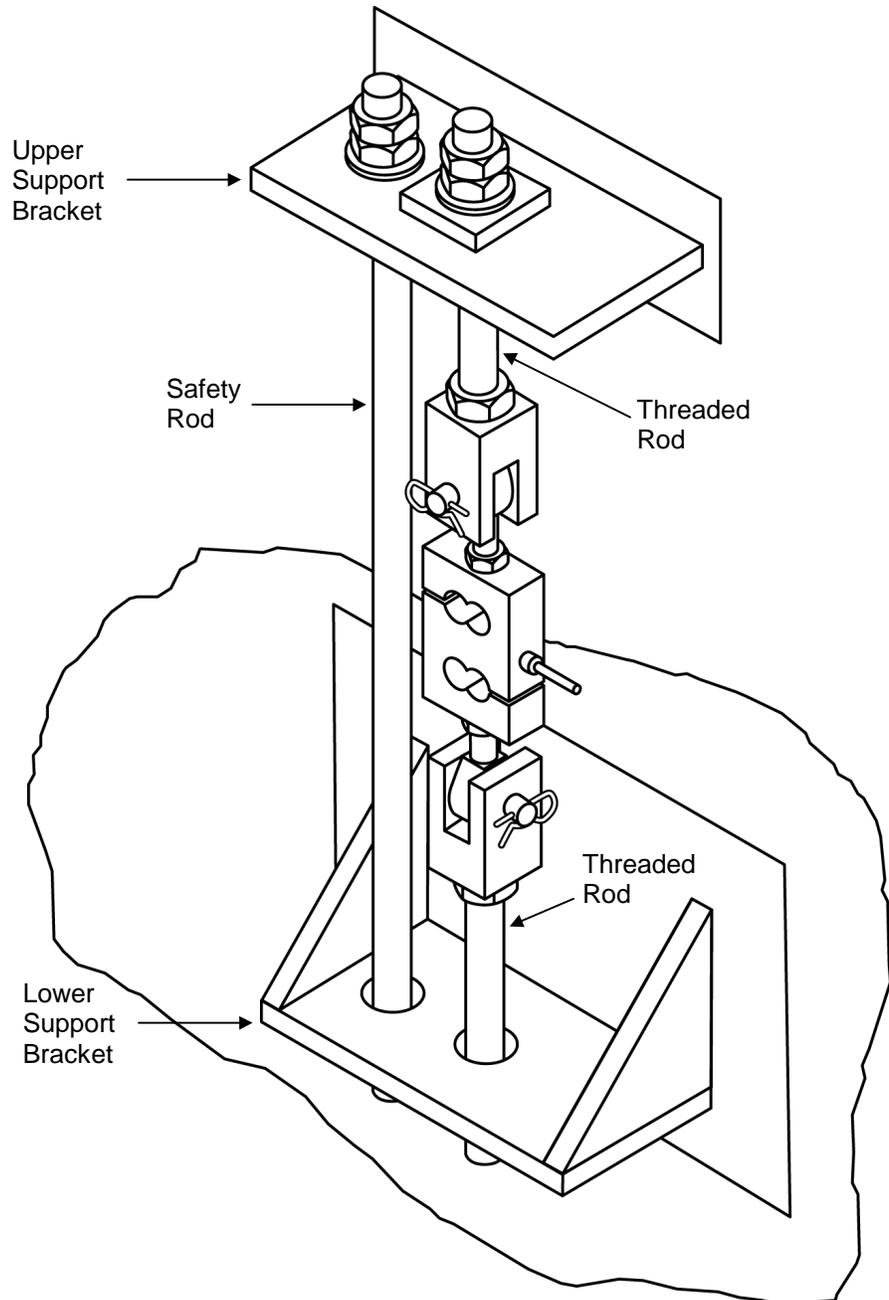

Figure 11-3: Typical Tension Weigh Module Installation
3. Place the threaded rod through a hole in the upper support bracket. Fit a backing plate and washer over the end of the threaded rod. Then double-nut the threaded rod against the backing plate. Attach the other end of the weigh module assembly in the same way (see Figure 11-3).